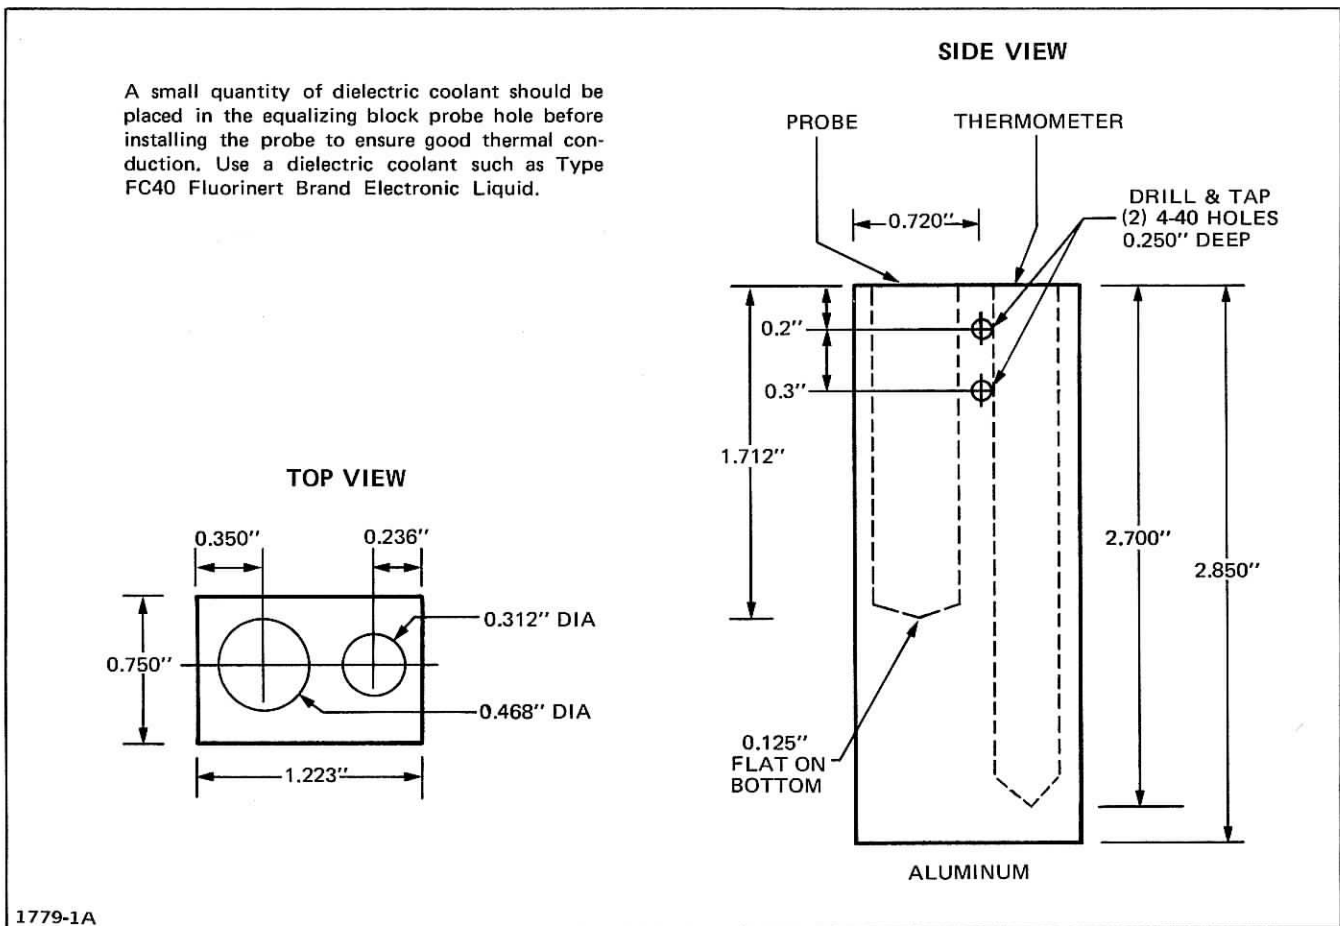

Fig. 3-2. Temperature probe equalizing block.
- e. Remove the temperature probe and reference thermometer from the solution and place in a temperature equalizing block (see Figure 3-2). Use a dielectric fluid (see note in Figure 3-2).